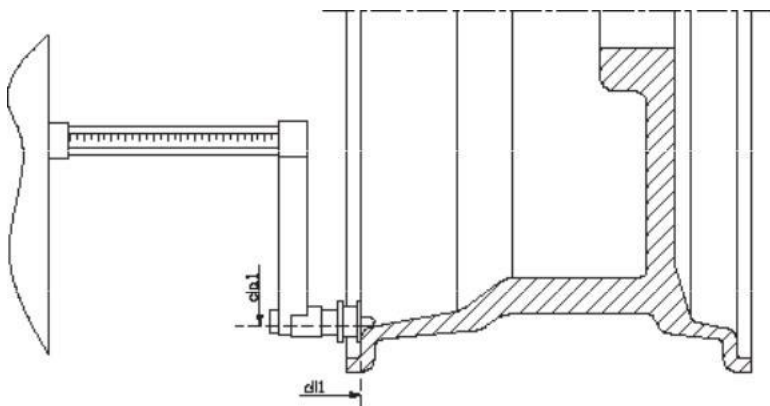
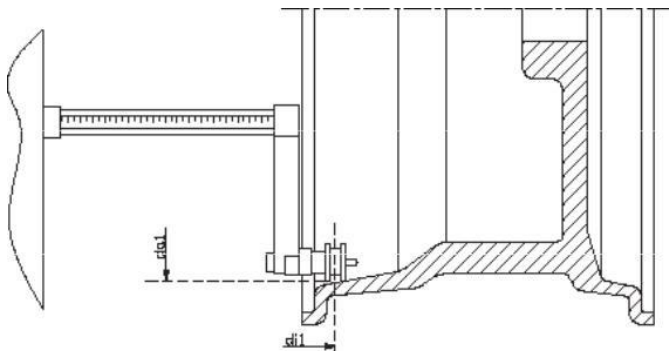

Figure F3.7 - Automatic acquisition of the internal plane distance in the ALS1 Programme Type
Figure F3.8 - Automatic acquisition of the internal plane distance in the ALS2 Programme Type
2. Extract the Distance/Diameter sensor and place it on the plane chosen as the internal plane. The point of support differs depending on whether the ALS1 or ALS2 programme has been enabled. See figures F3.7 and F3.8;
3. Extract the Distance/Diameter sensor and place it on the rim that corresponds to the internal plane chosen to apply the balancing weight. See figure F3.7 for the ALS1 Programme Type and figure F3.8 for the ALS2 Programme Type;